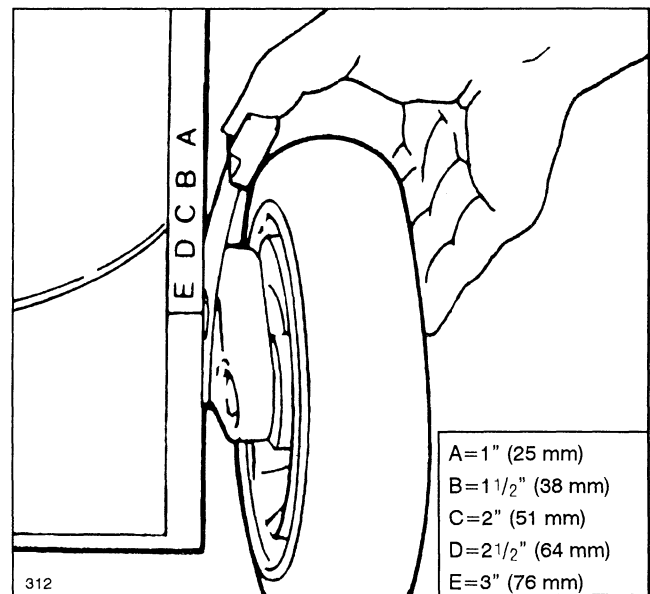

Figure 6
Five letters cast into the housing represent the height—of—cut settings (Fig. 6).
2. For easier adjustment, lift housing up so wheel is off ground. **Do not put fingers under housing when lifting.** Squeeze adjusting lever toward wheel and move to desired setting (Fig. 6). Ensure pin on adjusting lever engages notch in housing. Adjust all wheels to the same setting.